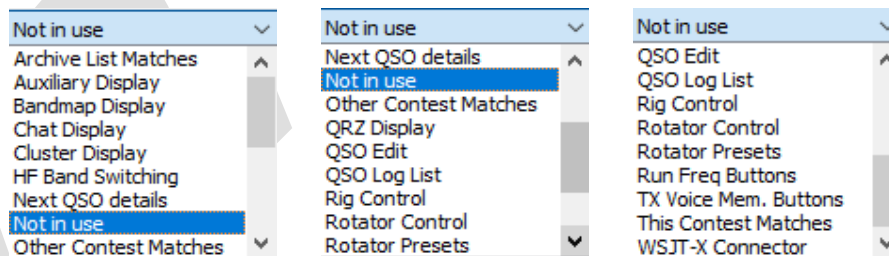

Figure 54 – Panel display options
53 Possible panel displays are shown in Figure 54; note that only one Rig Control or Rotator Control panel may be selected ithin a given configuration. No error message will be given!
**Note:** In Figure 54 the “HF Band Switching” entry in the pull-down list provides the facility to move between bands in multi-band HF contests (see Section 3.4.1.1). Band switching within a single contest is only valid in HF contests.